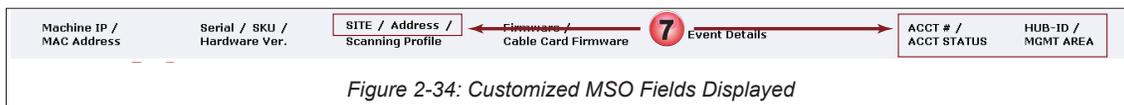

Figure 2-34: Customized MSO Fields Displayed
7. The updated fields, if they were changed, are displayed in the Server List header fields, Figure 2-34, or, if boxes were un-checked are not displayed at all.